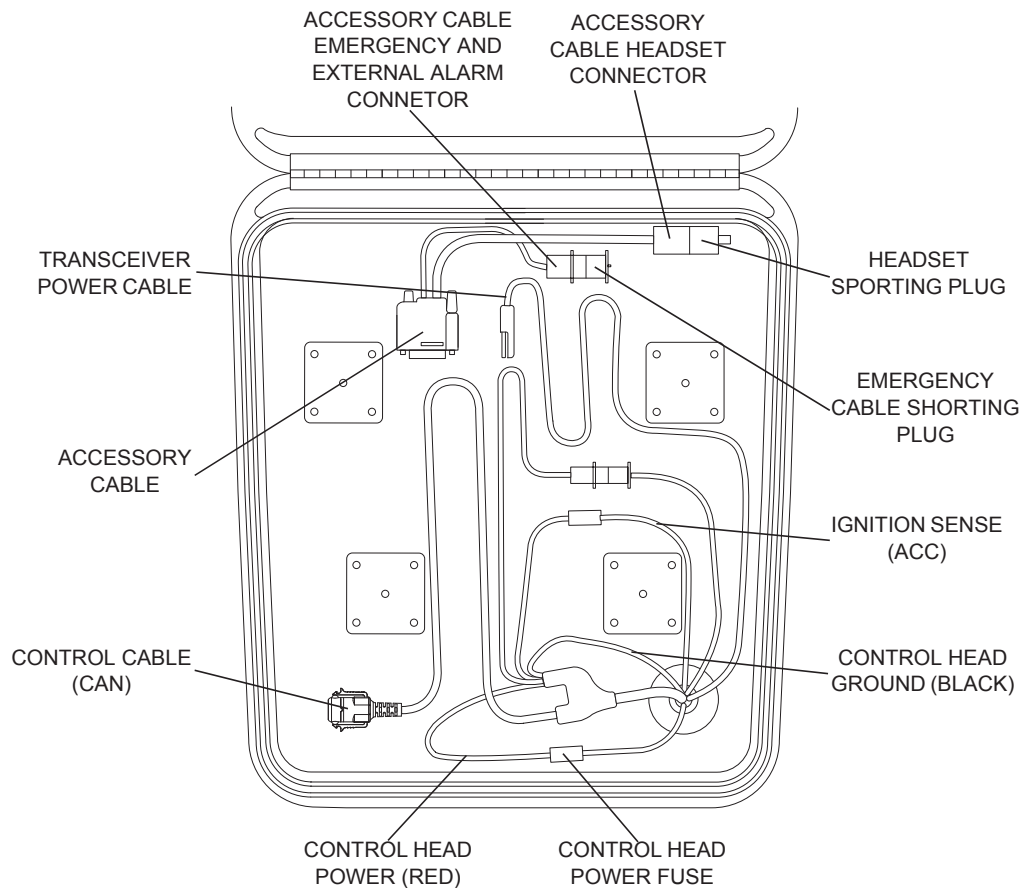

Figure 5-19. Installing Cables
2. Lay the excess cable length between the radio mounting bosses in an S configuration as shown in Figure 5-19. Do not coil any excess cable. Use the supplied tie wraps to bundle cable as shown.